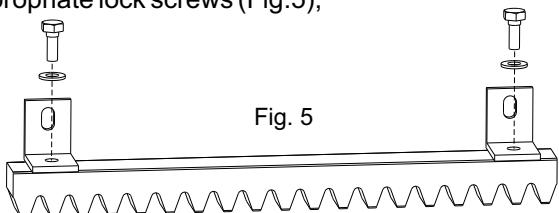

Fig. 5
**5.2.** Fix to each gear rack element the L-shaped bracket with the appropriate lock screws (Fig.5);